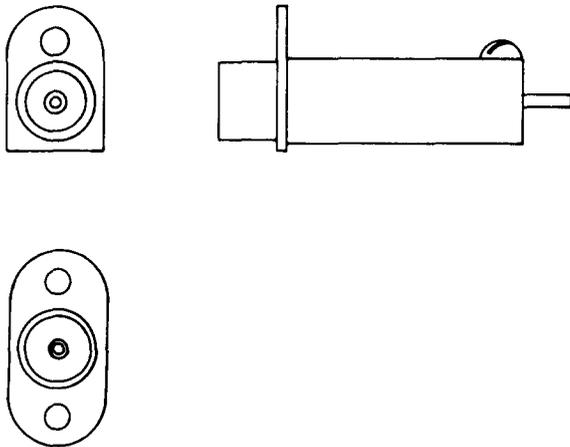

Fig. 8—558A or B Jack
2.08 **558A and B:** These are single-mounted coaxial jacks (Fig. 8).